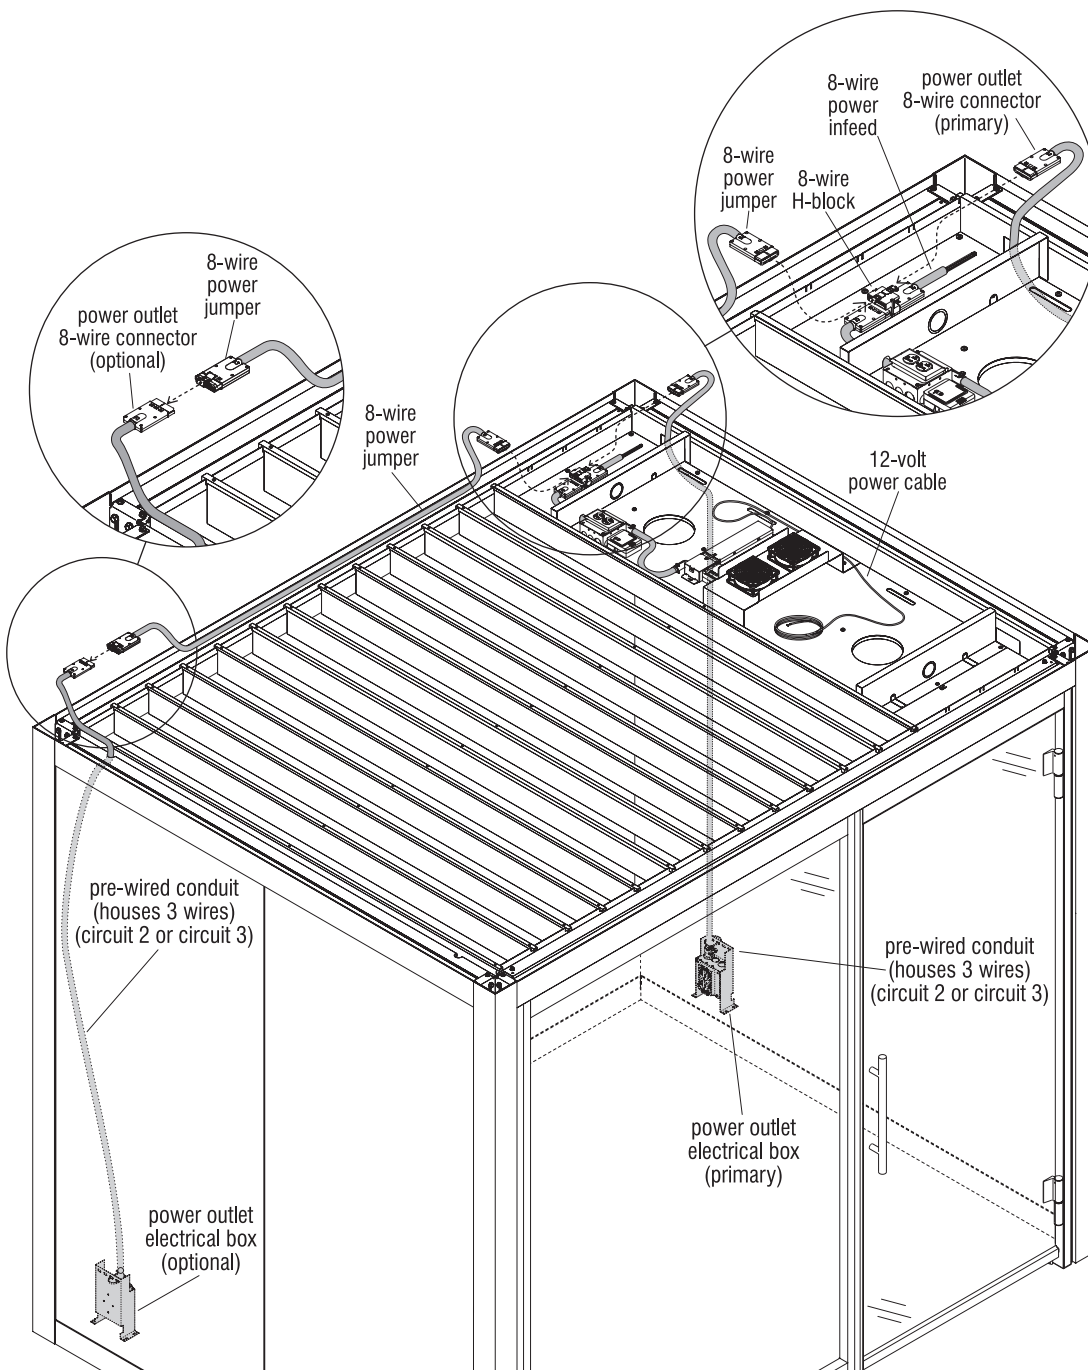

Figure 2
6. Assure that the non-insulated panel shell was previously removed from Evoke panel(s) with a power outlet (if not, see page 40). At the wall frame with the primary power outlet and panel removed, locate the 8-wire modular connector end of the primary power outlet. Route the modular connector and flexible conduit up through the horizontal panel frame cut-out and through the top beam side cut-out on the light & fan plank, then plug the modular connector into the 8-wire H-block (Figure 2).
7. If your room configuration has a second, optional power outlet in a panel at the opposite side of the room, a 10-foot long 8-wire power jumper is required. Locate the 8-wire modular connector end of the optional power outlet. Route the modular connector and flexible conduit up through the horizontal panel frame cut-out and through the top beam side cut-out. Plug the modular connector from the power outlet into a 10-foot 8-wire power jumper, run the 8-wire power jumper along the top of the perimeter beam, then plug the modular connector into the 8-wire H-block (Figure 2).